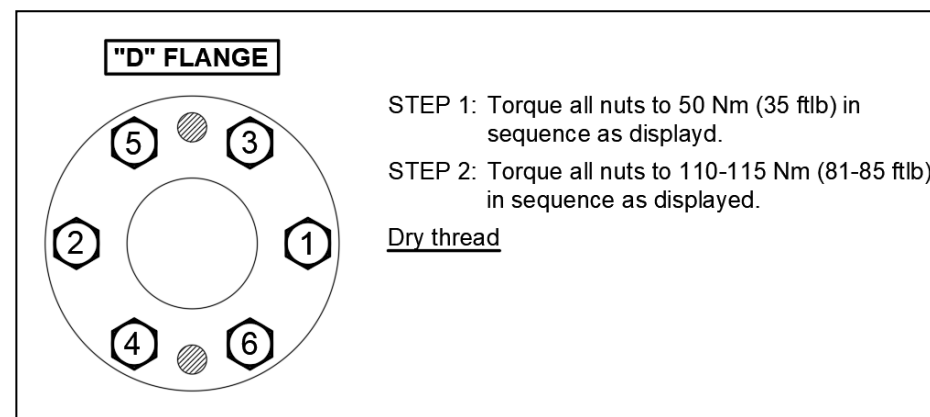

FIGURE 5-12
F. Make sure that the propeller fully seats on the engine flange throughout 360 degrees of rotation. Torque all mounting nuts in the steps and sequence for "D" Flange, as shown in Figure 5-12.